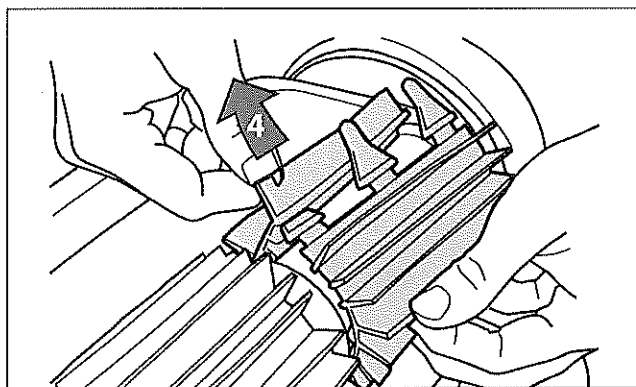

Figure 33. Pull Tabs Through Each Slot
4. Thread each tab into the slot provided and gently feed it through until the heel comes out at the other side of the slot (Figure 33).